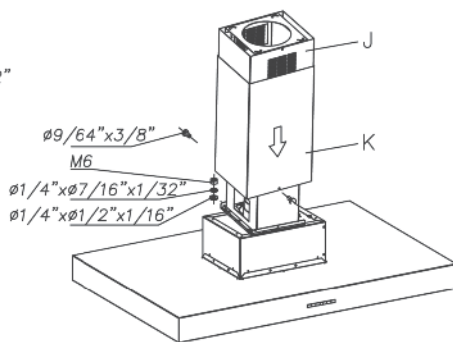

Fig. 5
• Introduce the k pipe and keep it raised (Fig. 5).
• Affix the hood to the telescopic structure using the nuts and washers (Fig. 5).
• Lower the K pipe attach it to the hood with 2 screws (Fig. 5)